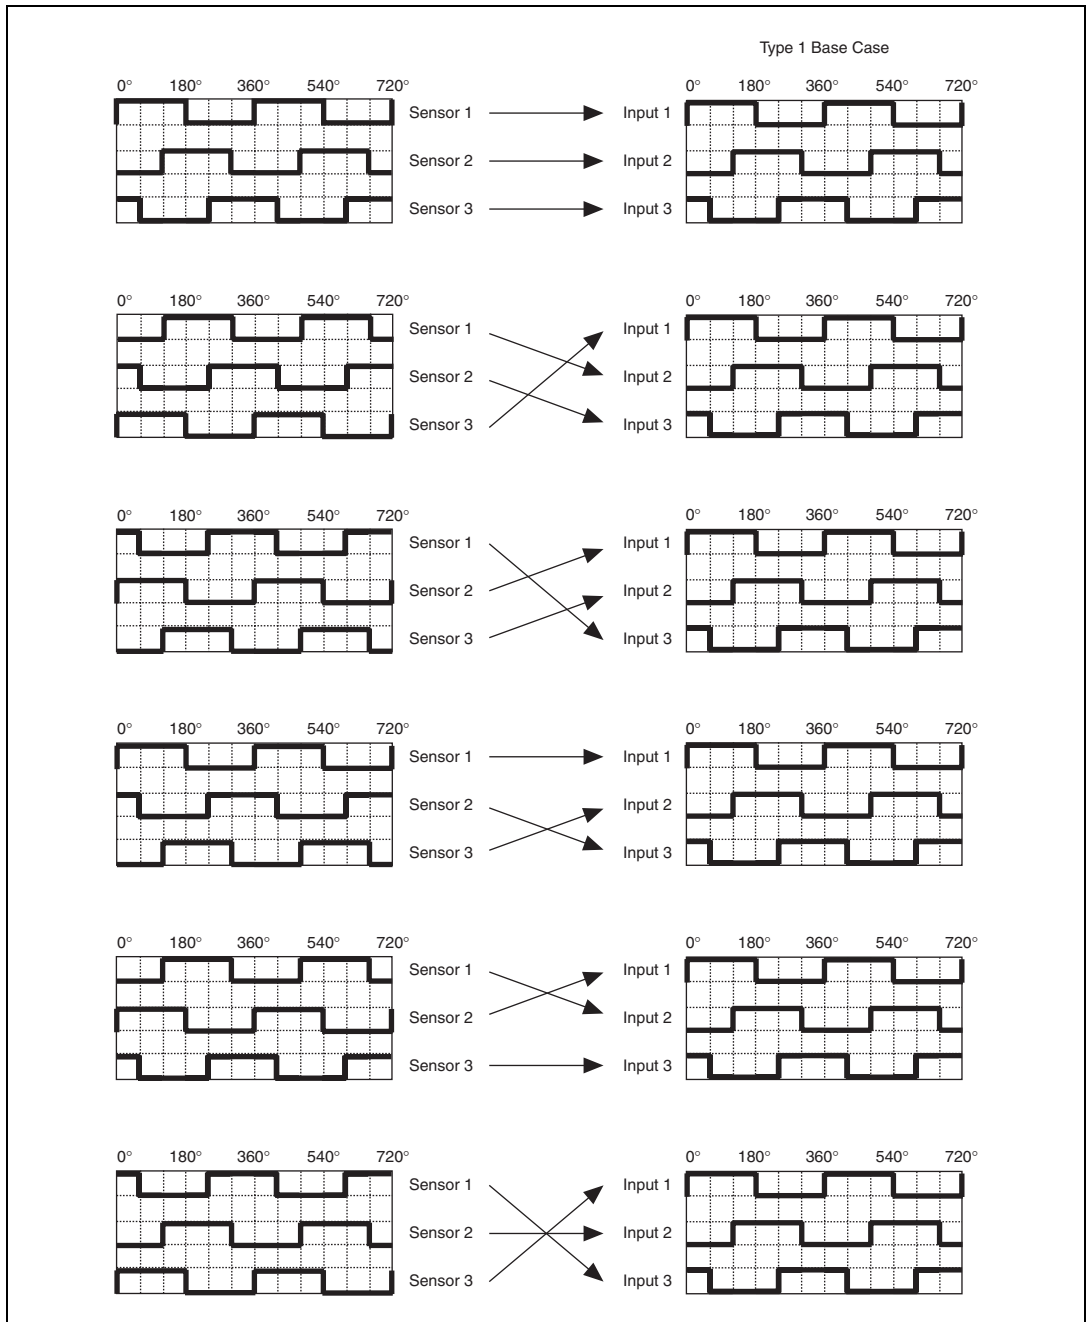
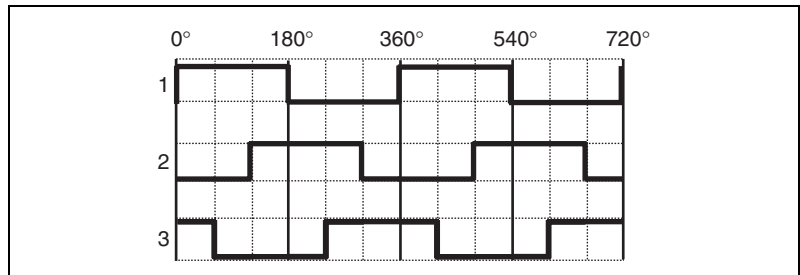

Figure 2-1. Type 1 Hall Sensor Wiring Diagrams
Figure 2-3. Type 1 Hall Sensor Phasing Sequence Diagram
2. Wire the Hall effect sensors based on the Hall effect sensor phase sequence diagram for the motor and Figures 2-1 and 2-2.
Match the Hall effect sensor phase sequence diagram for the motor with one of the diagrams in Figures 2-1 and 2-2. The diagrams on the left represent the diagram supplied with the motor. The diagrams on the right represent the expected inputs to the UMI or NI 7350. The arrows in the middle show the correct path to wire the Hall effect sensor outputs into the UMI or NI 7350 inputs.
If the motor documentation matches any of the patterns in Figure 2-1, you are using Type 1, which matches the graph in Figure 2-3.